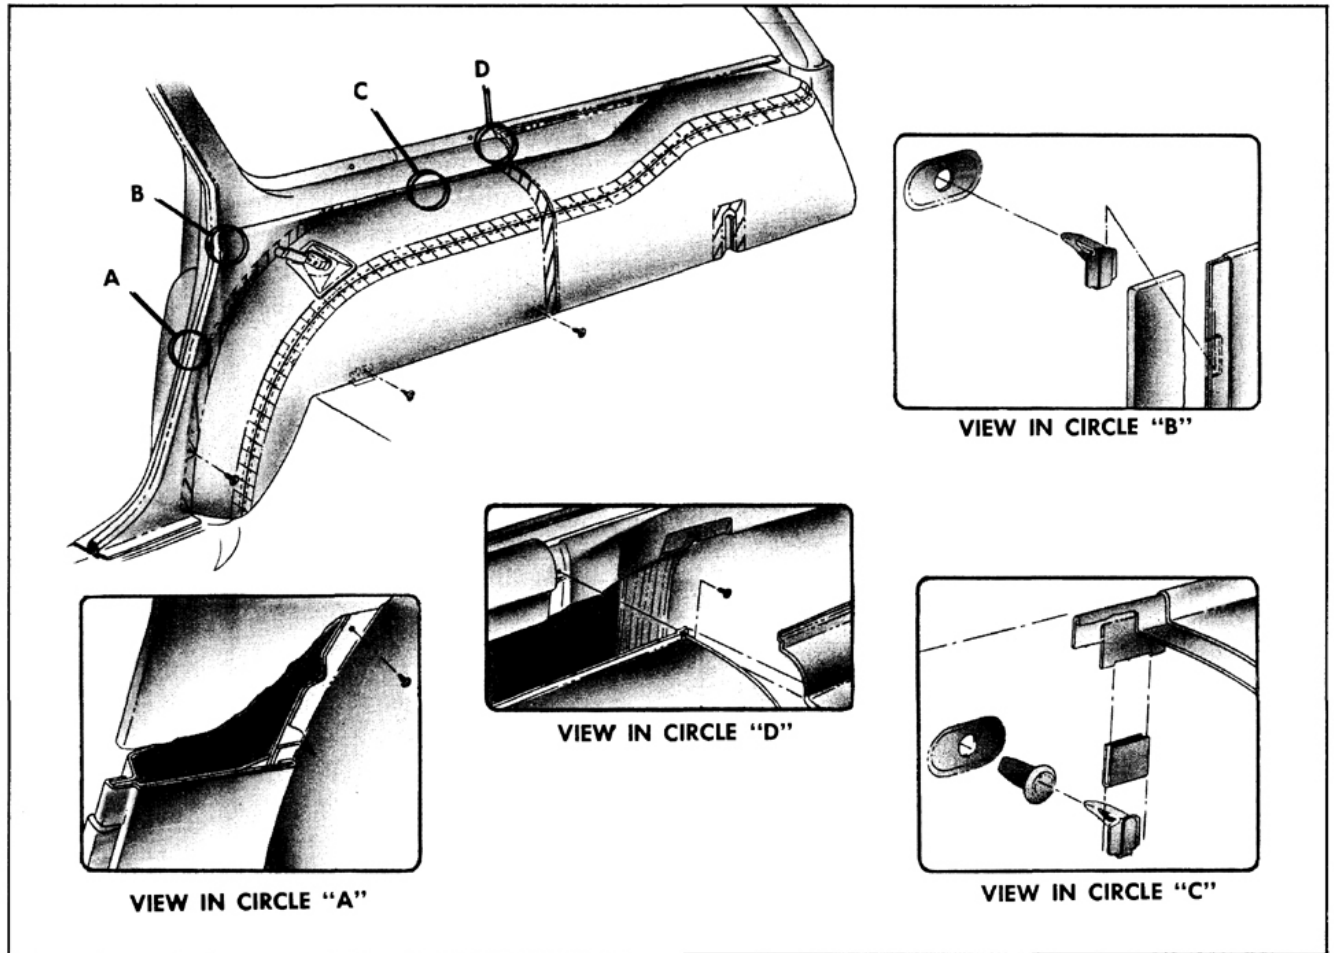

Fig. 16-370 Rear Quarter Trim
2. Remove exposed screw at lower end of front trim panel. (Figs. 16-370 and 16-371) Beginning at rear upper edge, pry snap-in type clips from quarter inner panel along upper edge of trim panel. ("B", Fig. 16-370)
3. Remove screws at front, rear, and bottom of wheelhouse trim cover. (Fig. 16-370) Using a flat-bladed tool, disengage snap-in type clips from plastic sealing plugs in quarter inner panel along top of wheelhouse trim cover panel and remove panel from body. ("C", Fig. 16-370)